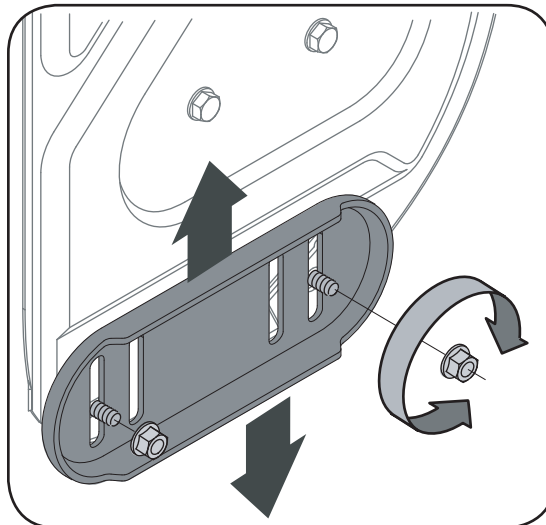

Figure 17
1. Adjust skid shoes by loosening the four lock nuts and carriage bolts and moving skid shoes to desired position. See Figure 17.